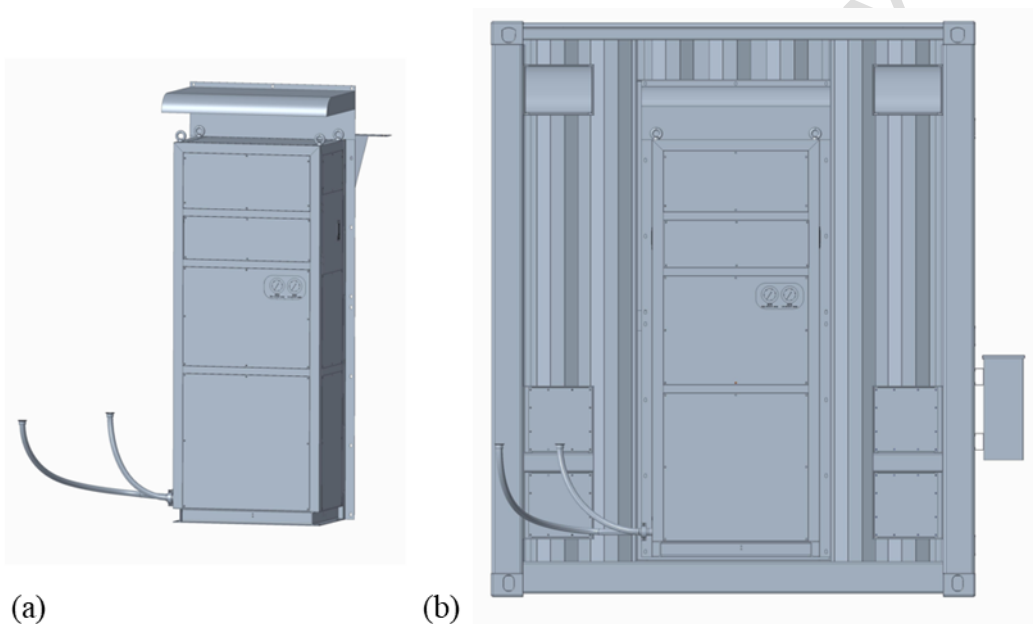

Figure 6.10 (a) Schematic diagram of air-conditioning kit (b) Installation diagram of container air-conditioning kit.
If an airtight air-conditioning kit is installed, it is not necessary to install a container exhaust fan, and the airtight air-conditioning kit is installed in the location where the container exhaust fan is installed, as shown in Figure 6.10 (a) from the container accessories wooden box, unpack it and perform installation:
- a. Installed at the rear door of the container, as shown in Figure 6.10 (b).